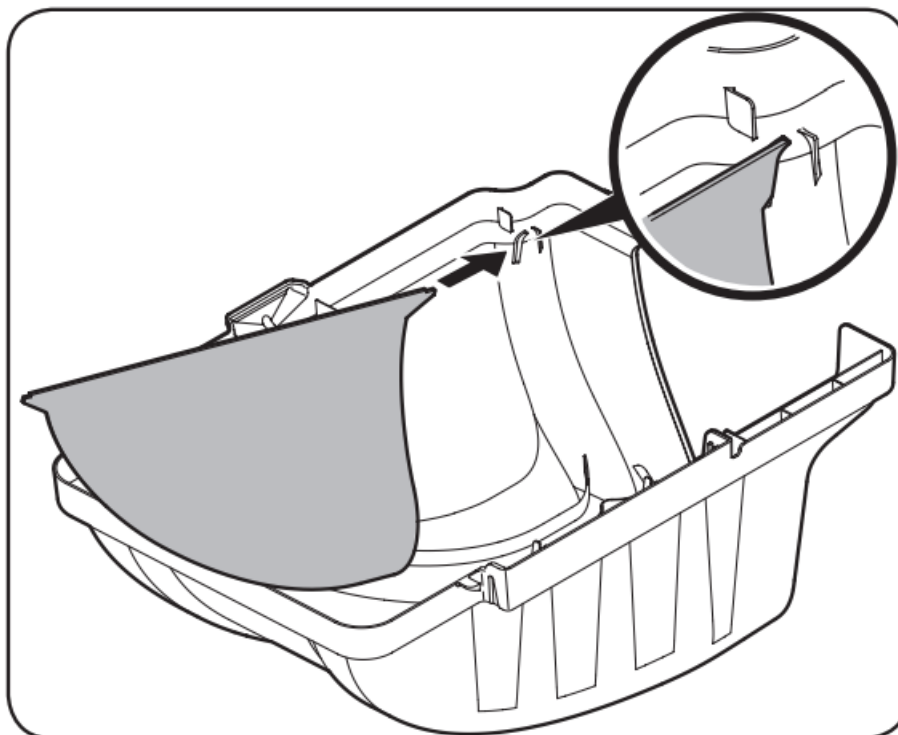

Figure 4-7
9. If not already installed by the factory, install the bagger screen into the bagger cover by first inserting one end into the corresponding cutout mounting hole, as in Figure 4-7.